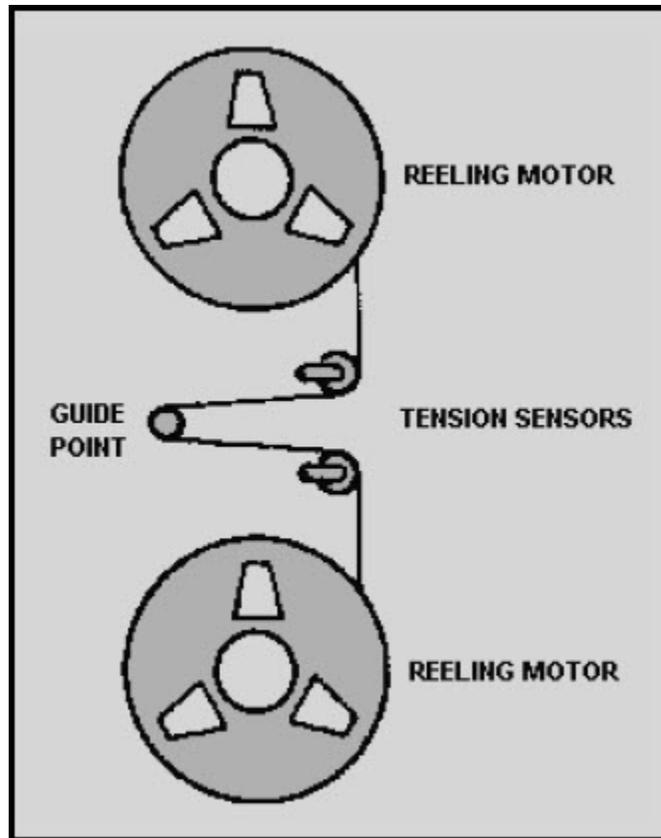

Figure 4-7 Co-planar tape reeling configuration
There are two basic tape reeling configurations: (1) co-planar, and (2) co-axial. Both of these describe the physical relationship between the supply reel and the take-up reel. The co-planar, which is used more often than the co-axial, has the supply reel and the take-up reel side by side. Figure 4-7 shows this configuration.